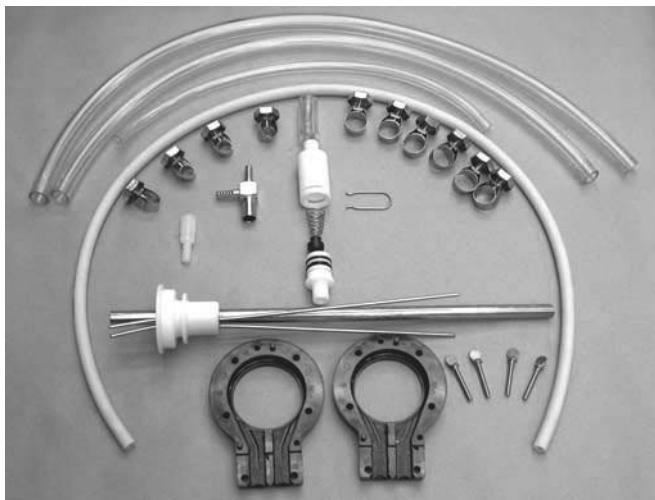

Figure 29. Removable Parts
- B. Use a small screwdriver to adjust the temperature control. Turn counterclockwise for a warmer temperature and clockwise for a colder temperature. It will take about an hour for the cab temperature to change. Figure 29.